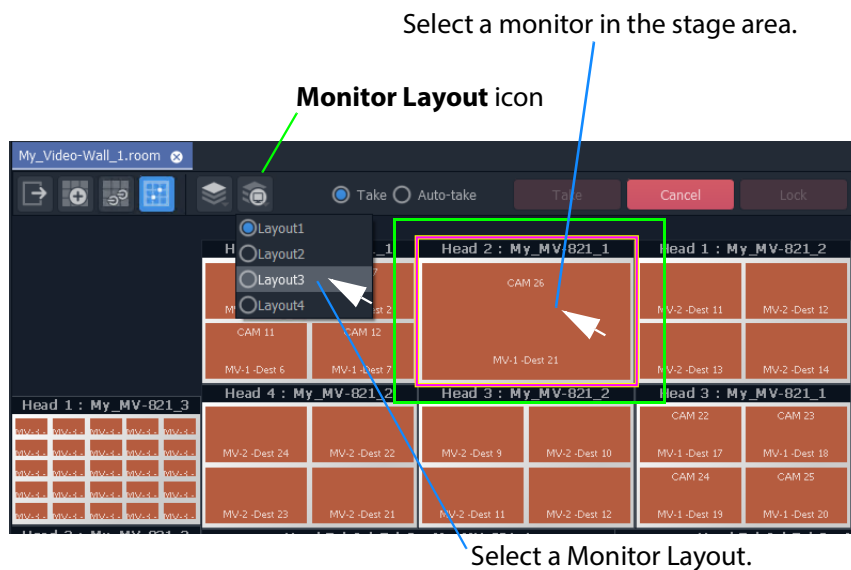

Fig. 15-85: Select Alternate Monitor Layout
- 1 Select a monitor in the **X/Y Routing** screen stage area. (See Figure 15-85.)
- 2 Click on the **Monitor Layout** icon in the **Room Editor** tool bar and select the required **Monitor Layout** to show. (See Figure 15-85.)